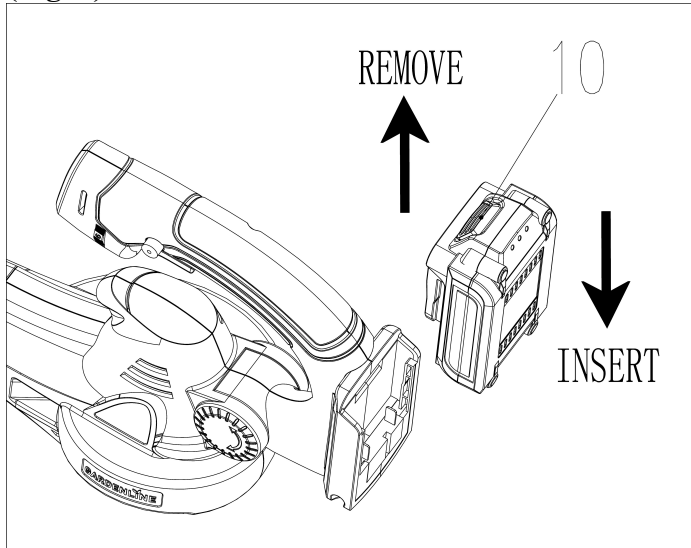

Fig.5
3. TO REMOVE OR INSTALL BATTERY PACK (Fig. 5)